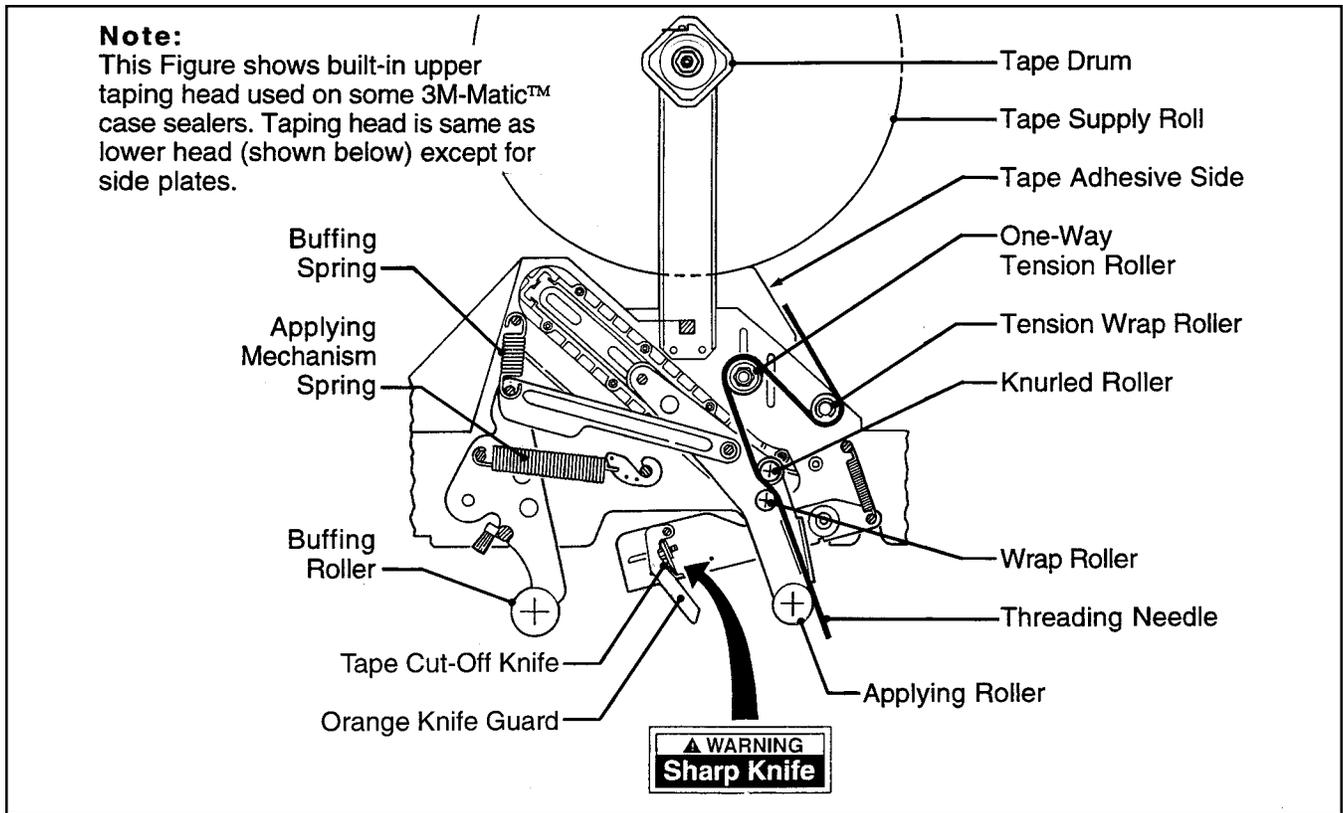

Figure 3-1 – Taping Head Components/Threading Diagram – Upper Head (Left Side View)
Before working with the taping head or loading/threading tape, refer to Figures 3-1 and 3-2 to identify the knife location. **Keep hands out of these areas except as necessary to service the taping head or to load/thread tape.**
WARNING – Taping head utilizes an extremely sharp tape cut-off knife. The knife is located under the orange knife guard which has the "Warning – Sharp Knife" label. Before working with the taping head or loading tape, refer to Figures 3-1 and 3-2 on page 6 and identify the knife location. Keep hands out of these areas except as necessary to service the taping head.
3. The taping head uses an extremely sharp tape cut-off knife. Before working with the taping head or attempting to load/thread tape, refer to Figures 3-1 and 3-2 and identify the knife location. Keep hands out of these areas except as necessary to service the taping head.
The applying mechanism spring, shown in Figures 3-1, 3-2 and 5-1 controls applying and buffering roller pressure on the box and returns the mechanism to the reset position. The spring pressure is pre-set at the factory, as shown in Figure 5-1A for normal operation.
If buffering roller force cannot be reduced enough by adjusting the applying mechanism spring, the buffering extension spring shown in Figure 3-1, 3-2 and 5-2 can be removed to reduce pressure. In this case, the applying mechanism spring will have to be re-adjusted to provide sufficient buffering roller pressure to adequately buff the tape seal.